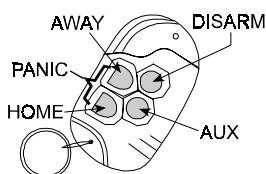

Figure 19. MCT-234
A. MCT-234 (Fig 19): ‘Keyfob’ transmitter - one unit is supplied with the PowerMax. You can program the AUX (auxiliary) button to perform various tasks, in accordance with the user’s needs.